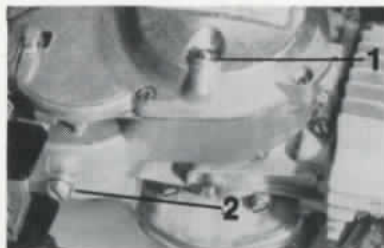

Fig. 14
- Remove the oil filling plug (fig. 14/1) and oil drain plug (fig. 14/2).